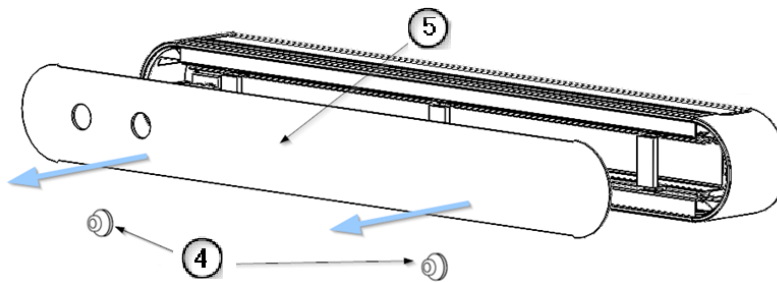

Fig. 4 Removal of the front panel
- Remove the M4 x 8 DIN 7505 screws (3) securing the front panel clamping tabs (2). The bracket (1) is fixed to the front panel.
- Remove the front cover (5) using two suction cups (4) as shown in Figure 4 to reveal the pre-installed gas inlets on the device.